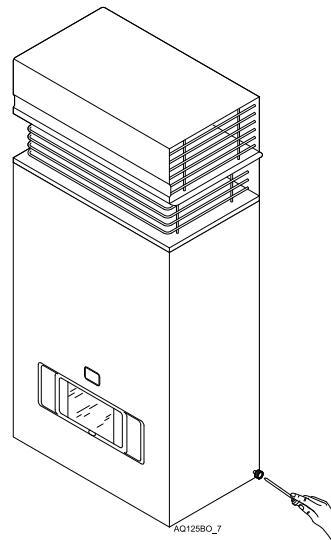

Fig. 6 Remove front cover
- ▶ Loosen the two screws located on the sides of the front panel, see Fig. 6.